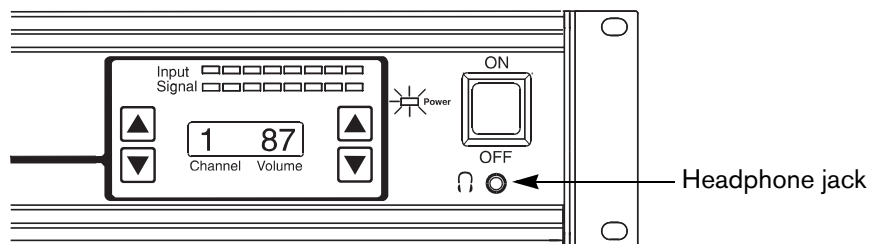

Figure 7: Location of headphone jack on distribution unit
5. Plug headphones into the jack located on the front of the distribution unit (under the power switch). See Figure 7.